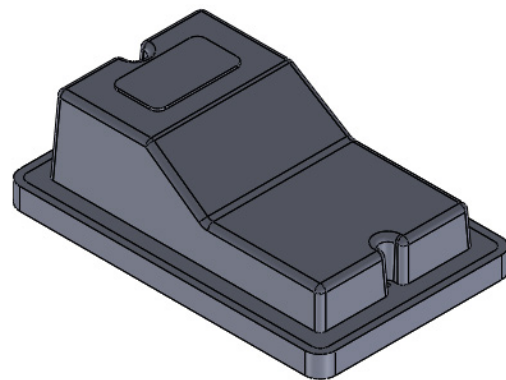

Figure 21-46 Resultant Core
10. Extrude the sketch up to the knitted surface and hide the knitted surface. Figure 21-46 shows the resultant core extracted from the plastic cover.